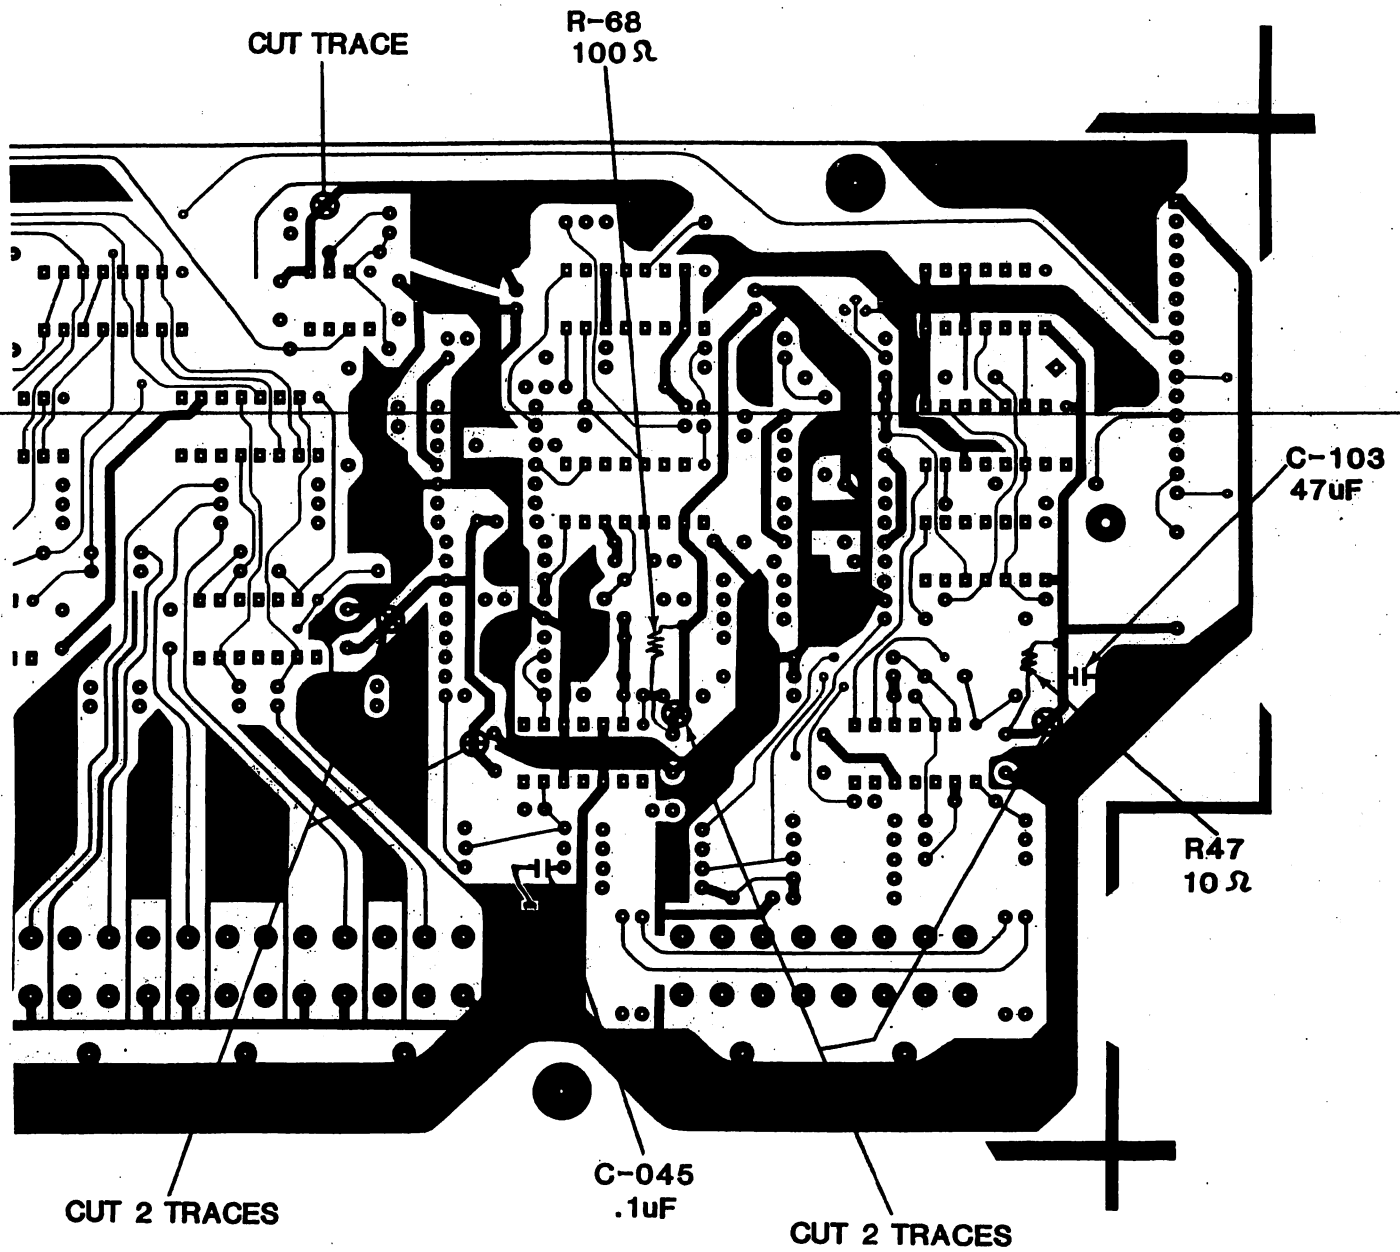

Figure 4 Component side traces
3. Refer to Figure 4, Component side traces, and perform the following steps: